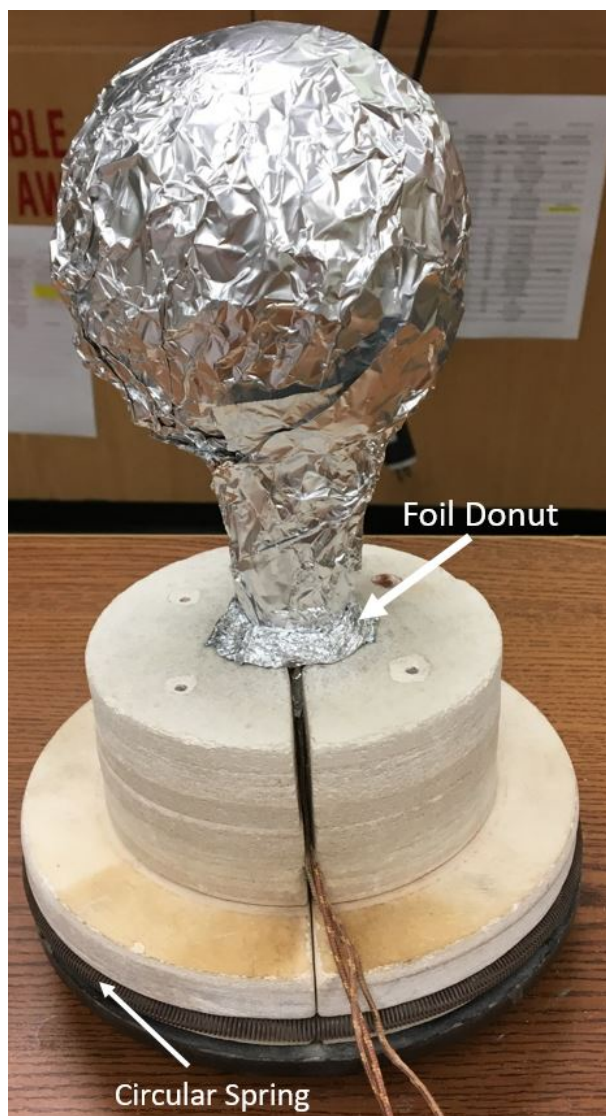

Figure 2: Final state of the flask/lid assembly
- **Carefully** set the assembly on a table or other stable surface with the flask on top (See Figure 2)
- See Figure 2 for the final flask/lid assembly before insertion into the furnace